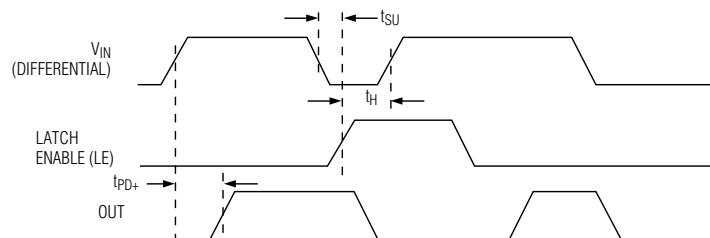

Figure 1. Timing Diagram
- Note 8:** Latch times are guaranteed by design. Latch setup time (t_{SU}) is the interval in which the input signal must be stable prior to asserting the latch signal. The hold time (t_{H}) is the interval after the latch is asserted in which the input signal must remain stable. Latch propagation delay (t_{LPD}) is the delay time for the output to respond when the latch enable pin is deasserted (see Figure 1).
The MAX9011/MAX9013 provide a TTL-compatible latch function that holds the comparator output state (Figure 1). With LE driven to a TTL low or grounded, the latch is transparent and the output state is determined by the input differential voltage. When LE is driven to a TTL high, the existing output state is latched, and the input differential voltage has no further effect on the output state.